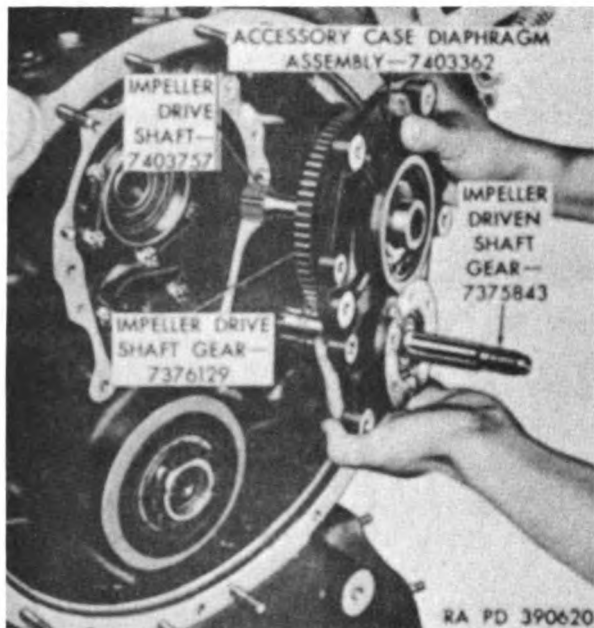

Figure 116. Installing accessory case diaphragm assembly.
- (11) Install impeller drive shaft (P) in bore of drive shaft gear, engaging splines on drive shaft with splines in gear.
- (12) Aline impeller drive shaft with bore in accessory case and inner race of bearing on impeller driven shaft gear with bore of outer race of roller bearing in accessory case and install diaphragm assembly on accessory case as shown in figure 116. Dowel pin holes in diaphragm must aline with dowel pins in accessory case.
- (13) Secure diaphragm assembly to accessory case with six $\frac{5}{16} \times 1\frac{1}{4}$ hex-head bolts (F) and $2\frac{1}{16}$ id, $\frac{9}{16}$ od, 0.0630 thick flat washers (G). Secure bolts with locking wire.
- (14) If oil seal (C) was removed from impeller driven shaft gear oil seal housing (D), install impeller spacer (B) in new oil seal. Drive oil seal and spacer in housing using a suitable driving tool, using care not to damage seal. Slide oil seal housing, with oil seal, spacer, and impeller spacer washer (A), onto diaphragm assembly